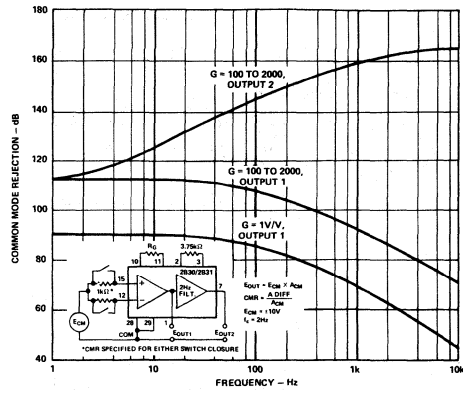

Figure 11. Common-Mode Rejection vs. Frequency and Gain
**Common Mode Rejection:** CMR is rated at  $\pm 10V$  CMV and  $1k\Omega$  source imbalance. The CMR improves with increasing gain. As a function of frequency, the CMR performance is enhanced by the incorporation of low pass filtering, adding to the 90dB minimum rejection ratio of the instrumentation amplifier. The effective CMR at 60Hz at the output of the filter ( $f_c = 2Hz$ ) is 140dB min. Figure 11 illustrates a typical CMR vs. Frequency and Gain.